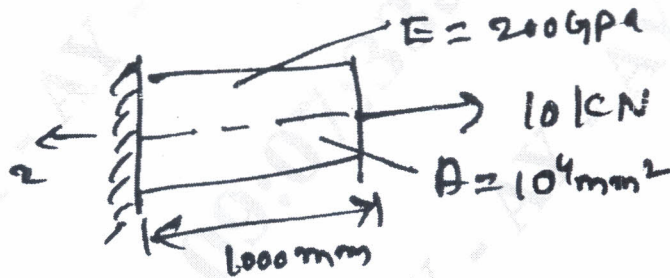

Fig Q3(b) (10 Marks)
- b. Fig. Q3(b) shows 1 – D bar element subjected to axial loading. Determine :